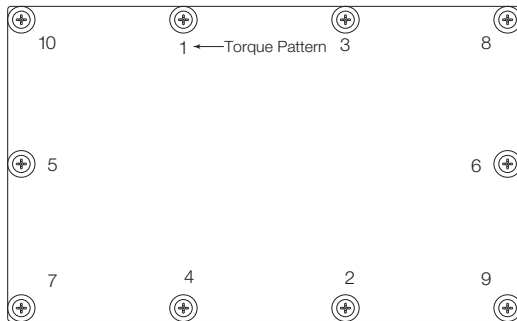

Figure 2. Torque pattern
7. Use cable ties to secure loose cables inside the enclosure. Once cabling is complete, position the backplate over the enclosure and reinstall the backplate screws. Use the torque pattern shown in Figure 2 to prevent distorting the backplate gasket. Torque screws to 15 in-lb (1.7 N-m).